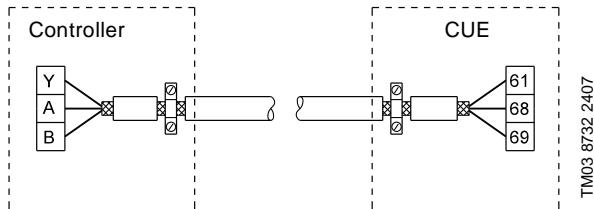

Fig. 45 Example of connection of a 3-conductor bus cable with screen connected at both ends
- Connect the screen to frame at both ends for both motor and signal cables. See fig. 45. If the controller has no cable clamps, connect only the screen to the CUE. See fig. 46.